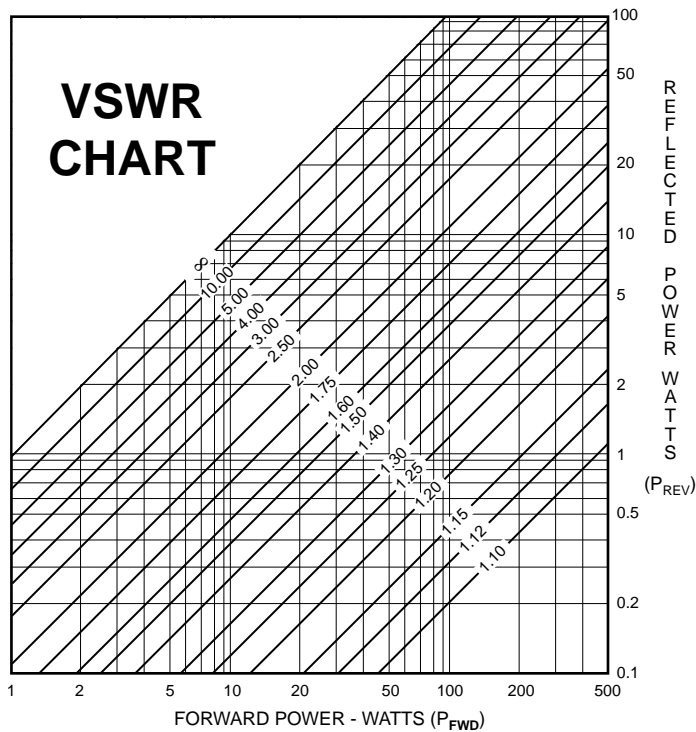

Figure 7-2: VSWR Chart
7.03 Figure 7-2 shows a nomograph for estimating VSWR from the measured incident and reflected power. See 5.05 for calculation procedures.